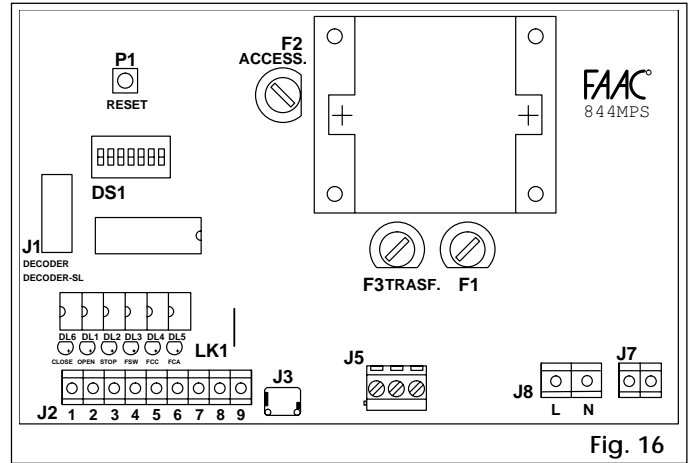

Fig. 16
When the LED of the opening travel end limit switch (FCA) in the 844 MPST electronic control unit (fig. 16) goes out, advance the travel stop plate 10 mm more, and fasten it temporarily in position with two spot welds
When the LED of the closing travel end limit switch (FCC) in the 844 MPST electronic control unit (fig. 16) goes out, advance the travel stop plate 10 mm more, and fasten it temporarily in position with two spot welds.
① **Low voltage terminal block J2** (Fig. 16) is used to connect all accessories (see Table 4).
④ **Terminal block J6 (fig. 16)**
⑤ **Terminal block J7 (fig. 16)**